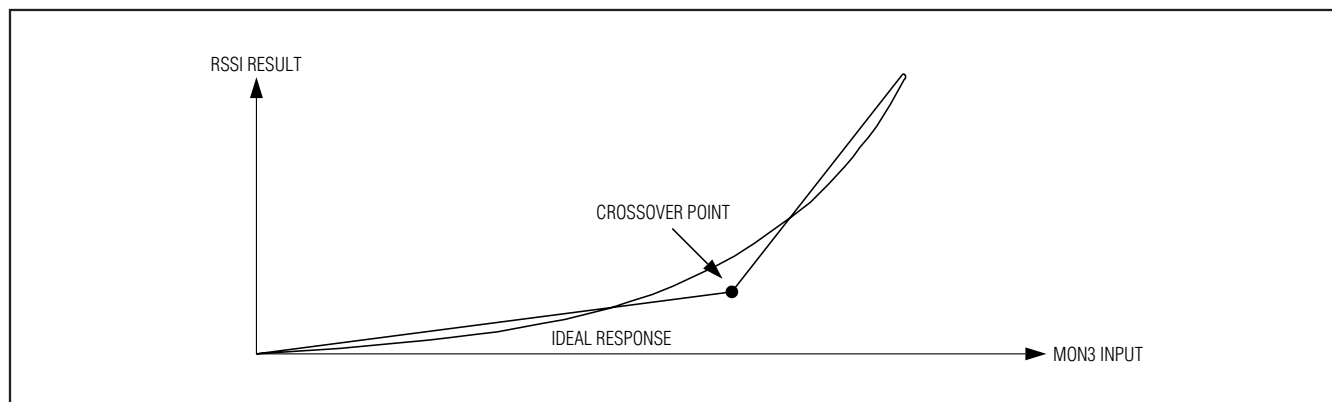

Figure 8. RSSI with Crossover Enabled
- Crossover Enabled:** For systems with a nonlinear relationship between the ADC input and desired ADC result, the mode should be set to crossover enabled (Figure 8). The RSSI measurement of an APD receiver is one such application. Using the crossover enabled mode allows a piecewise linear approximation of the nonlinear response of the APD's gain factor. The crossover point is the point between fine and coarse points. The ADC result transitions between the fine and coarse ranges with no hysteresis. Right-shifting, slope adjustment, and offset are configurable for both the fine and coarse ranges. The XOVER FINE register determines the maximum results returned by fine ADC conversions, before right-shifting. The XOVER COARSE register determines the minimum results returned by coarse ADC conversions, before right-shifting.